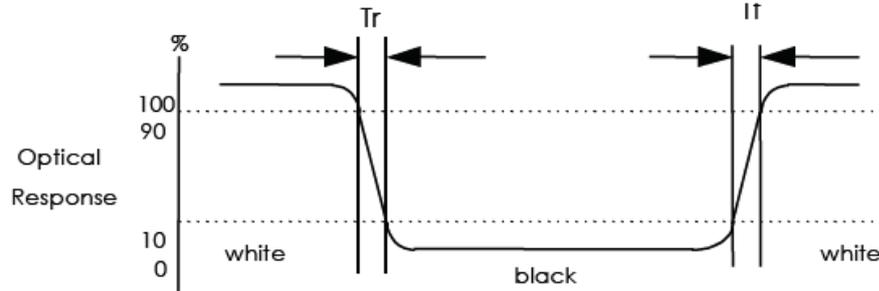

FIG. 2 Measuring method for Contrast ratio, surface luminance, Luminance uniformity , CIE (x, y) chromaticity
Note 1. Contrast Ratio(CR) is defined mathematically as For more info rmaion see FIG 2.
Note 2. Surface luminance is the LCD surface from the surface with all pixels displaying white. For more information see FIG 2.
Note 3. The uniformity in surface luminance , δ WHITE is determined by measuring luminance at each test position 1 through 5, and then dividing the maximum luminance of 5 points luminance by minimum luminance of 5 points luminance. For more information see FIG 2.